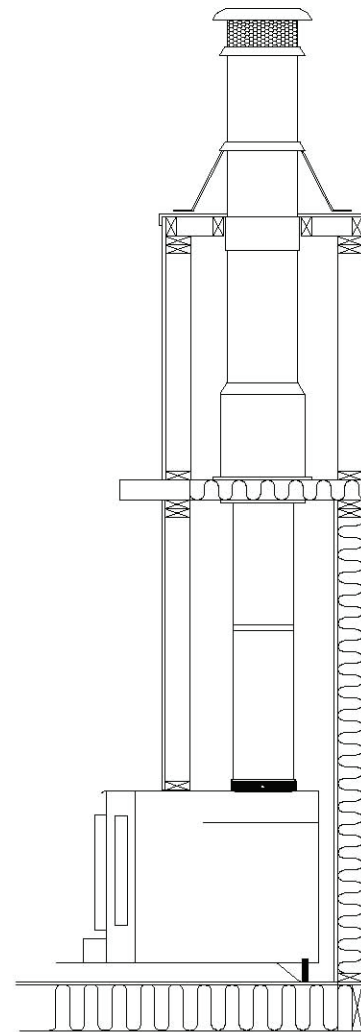

FIGURE 17: PREFABRICATED CHIMNEY
- b) Factory Built, as shown in FIGURE 17